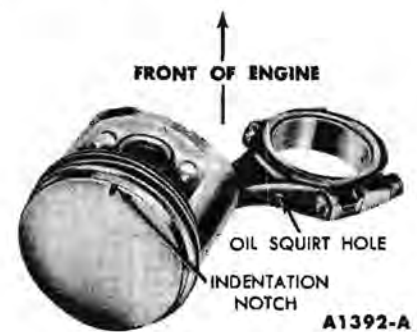

FIG. 42—Typical Piston and Connecting Rod Assembly
1. Apply a light coat of engine oil to all parts. **Assemble the piston to the connecting rod with the oil squirt hole in the connecting rod and the indentation in the piston positioned as shown in Fig. 42.**